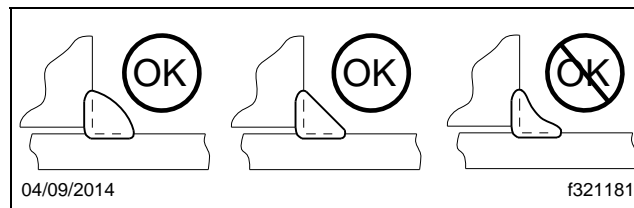

Fig. 4, Acceptable Weld Contours
31. Verify that the weld has a flat or slightly convex contour with a sufficient depth of fusion on both side walls. A concave contour is not allowed because it reduces the throat dimension of the weld. See **Fig. 4**.